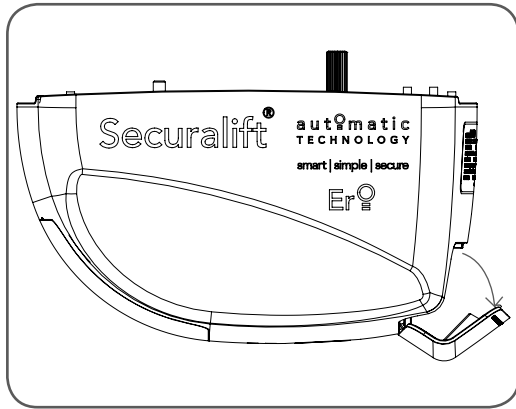

fig 28
- Swing open the controls cover to gain the access to the controls panel (**Fig. 28**) and swing back into its position when setup is completed.